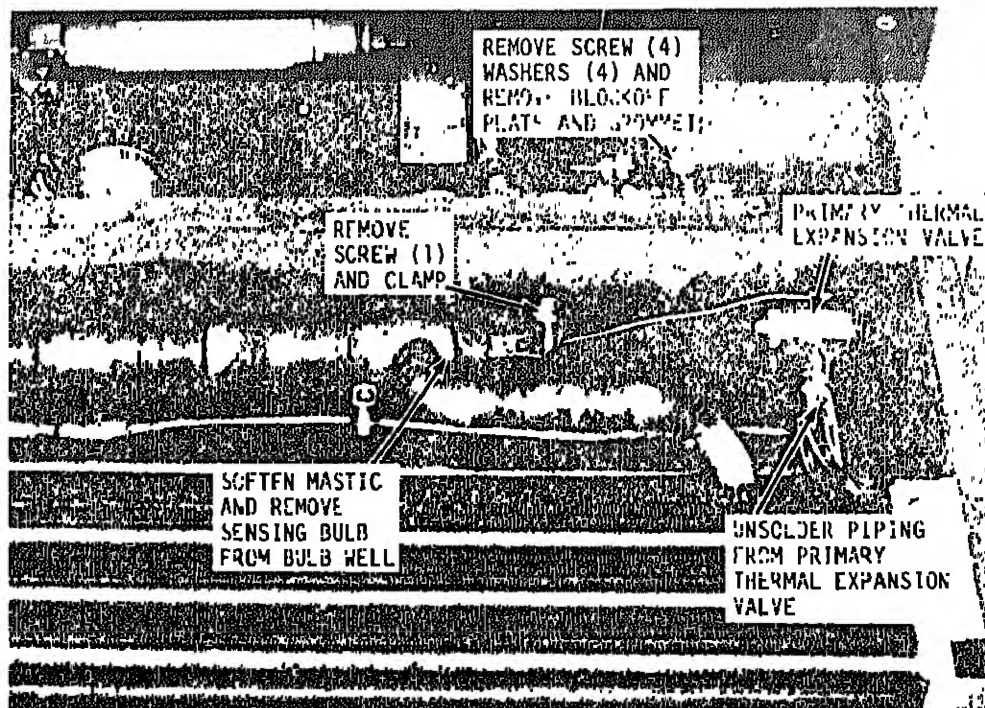

Figure 5-10. Primary thermal expansion valve, removal and installation
(3) Refer to figure 5-10. Soften the mastic in the bulb well and remove the expansion valve bulb. Take care to avoid damaging the capillary tube.
(4) Remove the expansion valve clamp.
(5) Unsolder the expansion valve from the refrigerant system tubing.
(1) Refer to figure 5-10 and mount the expansion valve against the compartment wall using the mounting clamp.